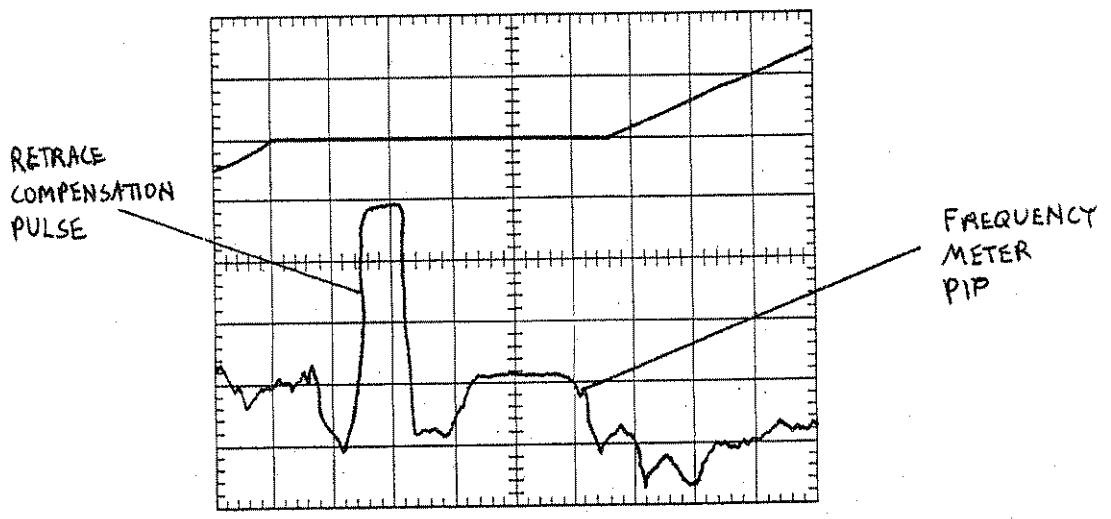

Figure 5-14. YD Retrace Compensation Pulse
the trace on the bandswitch point between Band 1 and Band 2 as shown in Figure 5-14.
7. Start with A8R55 (RTC COMP) fully clockwise and adjust it for the widest and flattest pip while moving the Frequency Meter to track the bandswitch frequency. A well adjusted retrace compensation pulse is shown in Figure 5-14.